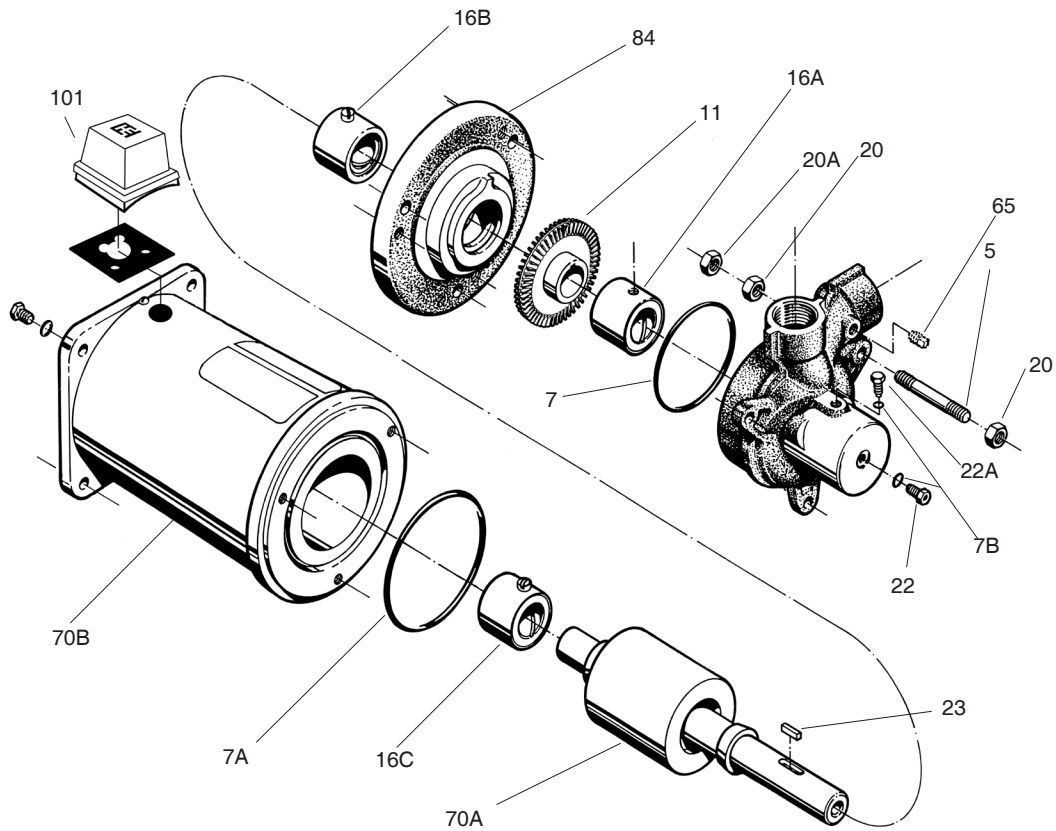

Figure 4-9
An exploded view of the unit, figure 4-9 is provided for referencing the numbers in the following procedures, i.e. (#84), motor bracket.
Refer to figure 4-9 for reference to the numbered parts in the procedures below.
(#20A) and the other three nuts (#20) using a 9/16" wrench and slide off the motor bracket (#84). DO NOT loosen, tighten, or turn the three 3/8-24 setscrews (#15) in the motor bracket, refer to figure 4-9. These are used to set the motor bracket true with the shaft. If these are disturbed, it will be necessary to follow the "Motor Bracket Setup Procedure" when reassembling the pump, as outlined in section 4E Reassembly.
6. Install the motor bracket (#84) over the three studs (#5) so that the water stop is oriented on the same side as the motor conduit connection, refer to figure 4-9. Be certain to orient the cartridge bearing (#16B) on the shaft so that the screw head slides into its groove in the motor bracket, or the motor bracket will not slide completely onto the motor.
8. Install the O-ring (#7) over the motor bracket. Refer to figure 4-9.
motor, refer to figure 4-9. Some pressure may be required to push to pump body over the O-ring on the motor bracket. Be careful not to pinch and damage the O-ring.